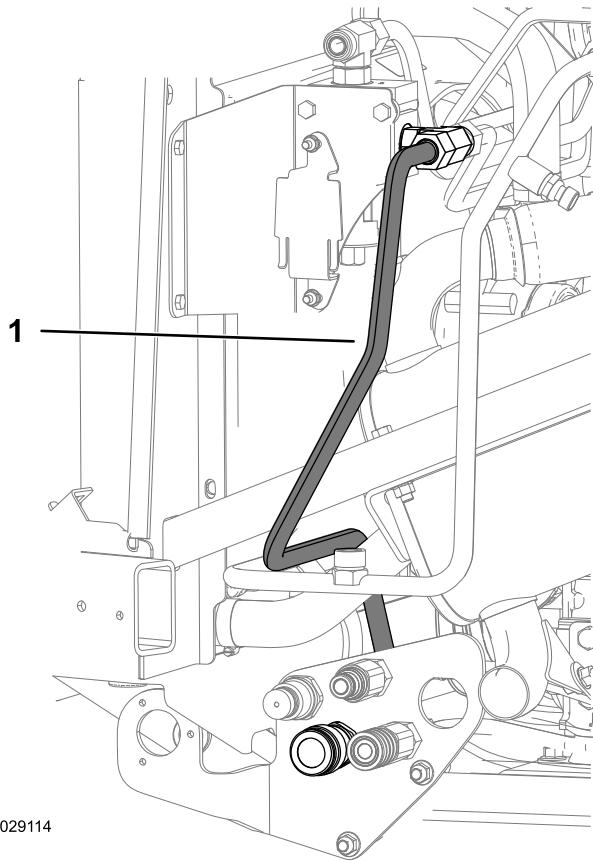

Figure 23
3. Install the hydraulic tube B from the tee adapter fitting (5/8 inch male) on the right manifold assembly to the bulkhead coupler (4.02 inches) on the bulkhead assembly as shown in Figure 23.